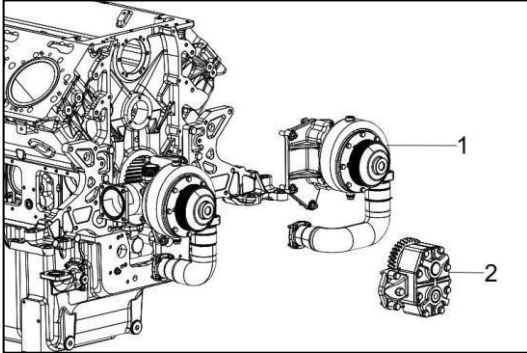

Figure 100
1. Remove the water pump group (Figure 100, 1) and oil pump (Figure 100, 2).